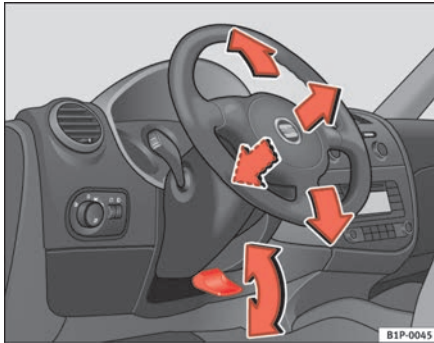

Fig. 113 Adjusting the steering wheel position
- Push the lever under the steering column ⇒ fig. 113 down ⇒ ⚠.